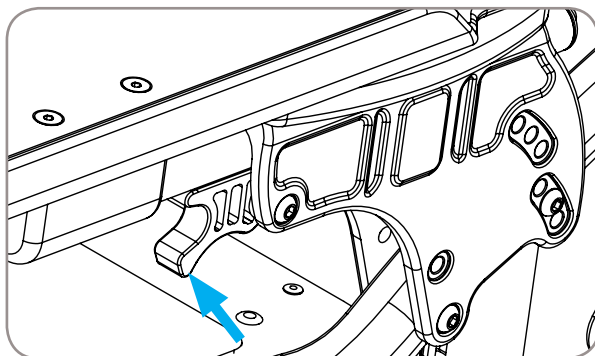

Figure 30
3. Swing left and right tray cams upward to lock in place. Reference Figure 30.